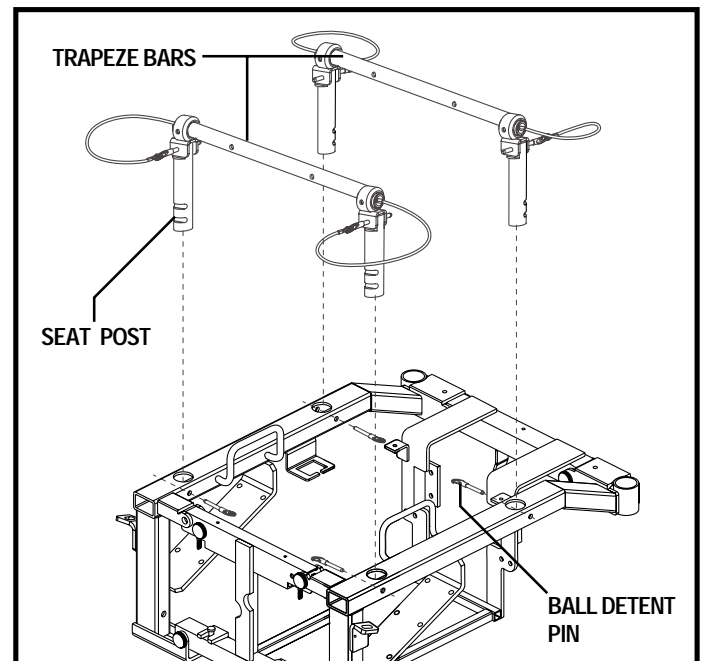

Figure 21. Seat Height and Angle Adjustments
6. Remove the ball detent pin from each seat post. See figure 21.